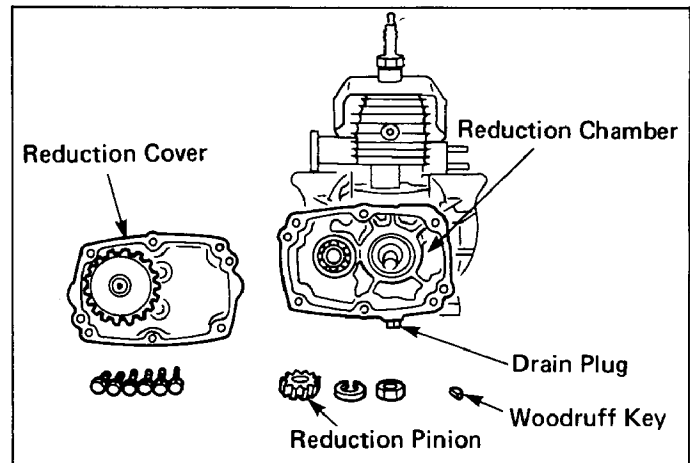

Fig. 6
- 3) Remove the nuts, and pull the reduction pinion out from the crankshaft. (See Fig. 6.)